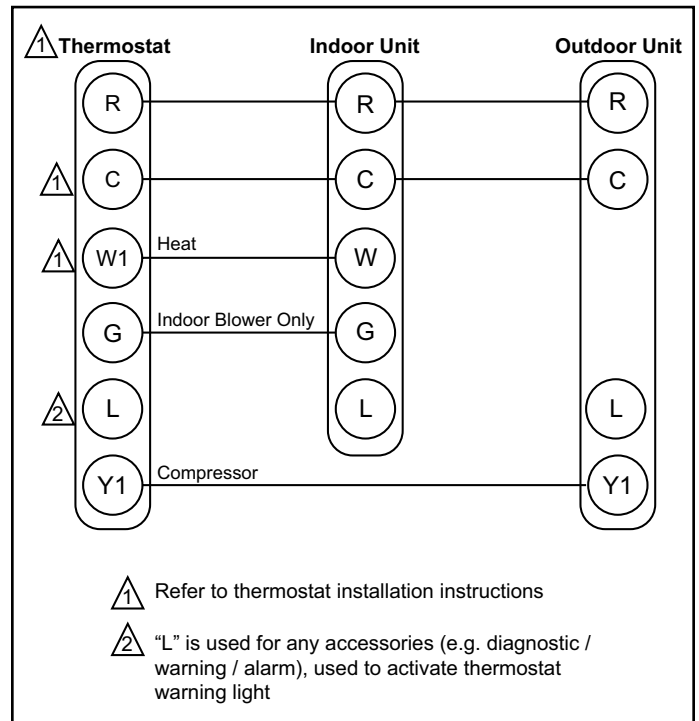

Figure 7. Thermostat Designations - Non-Communicating
5. Install low voltage wiring from outdoor to indoor unit and from thermostat to indoor unit (see Figure 7).